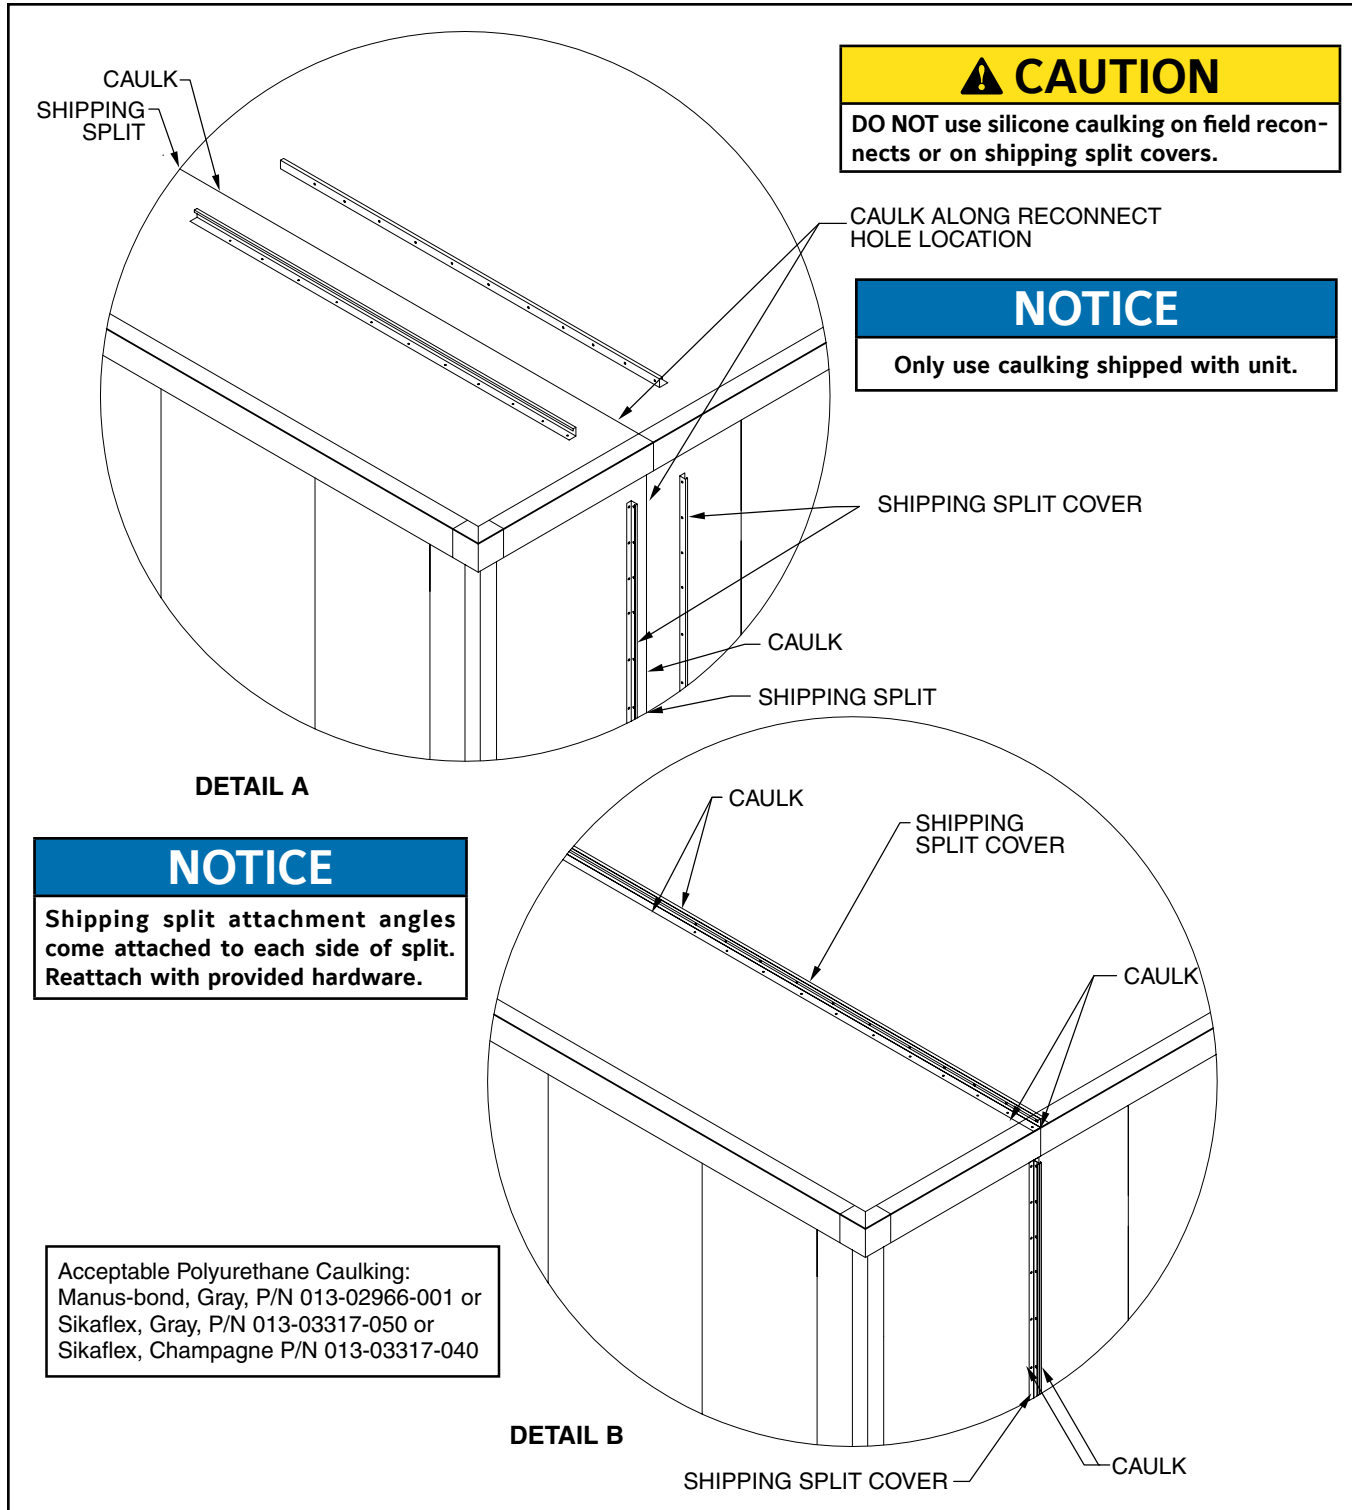

Figure 18 – Split Reassembly Procedure For AcuaiR Food Grade and Sanitary Series Units Only
6. Check to see if all bolts are secured properly, and apply polyurethane caulk to all exterior seams per Figures 18.